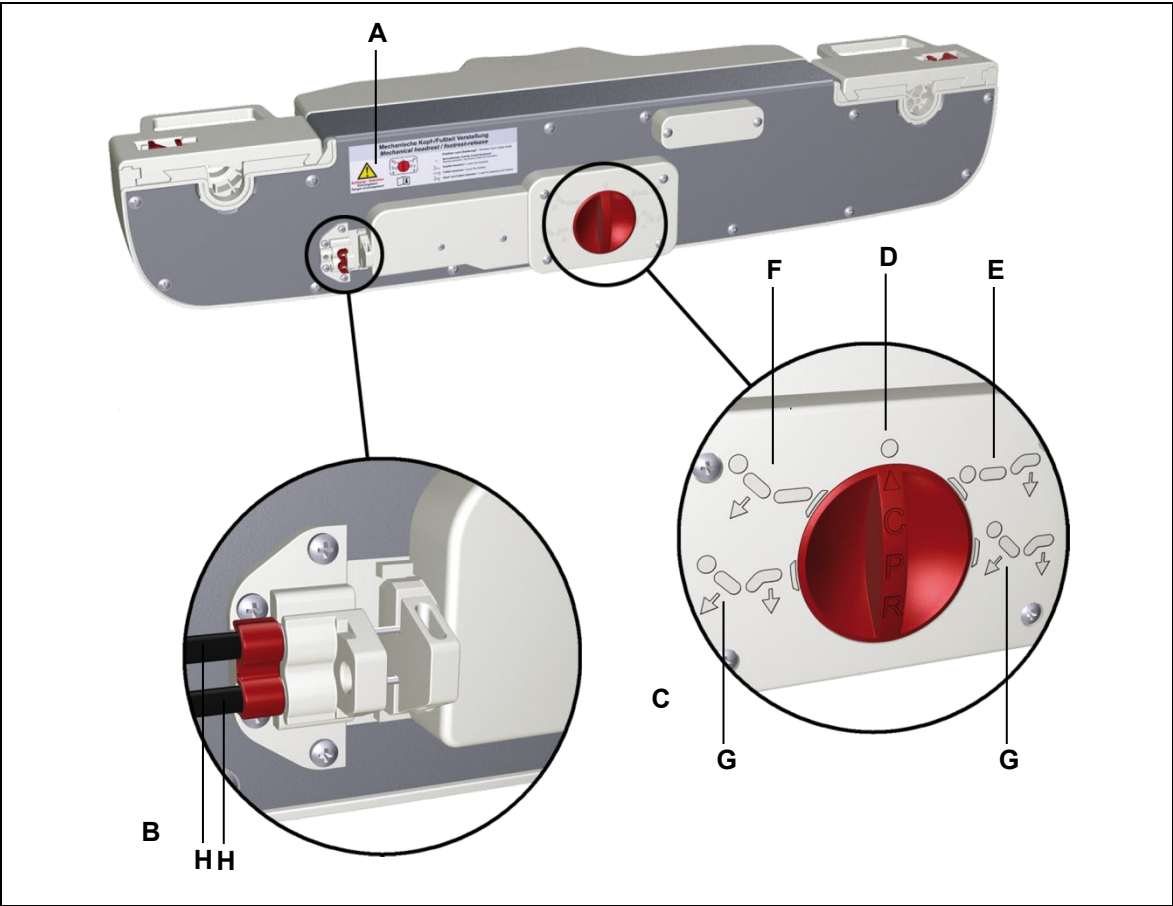

Figure 19 Mechanical reset function at the rear of the DUOMAT 9
- Follow the instructions on the sticker on the back of the DUOMAT 9 (refer to Figure 19).